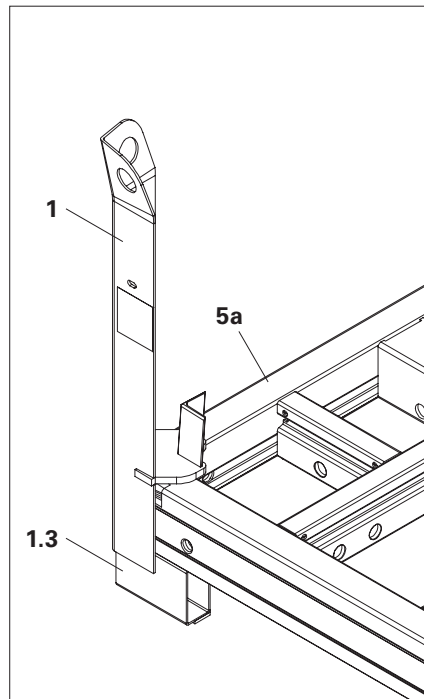

Fig. A2.01
1. Using the Lifting Gear MX, place the first Panel MX-2 (**5a**) onto the rectangular tubes (**1.3**) of the Stacking Devices MX (**1**) with the formlining facing downwards. (Fig. A2.01)